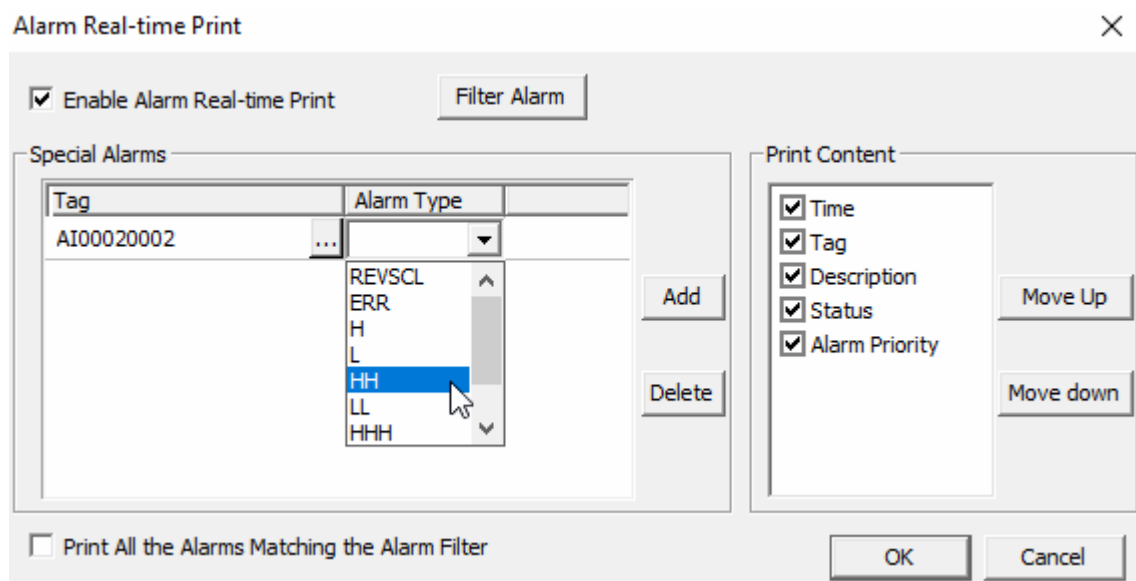

Figure 4-86 Add a special alarm
- Add a special alarm: When click the button "Add" and select  beside the tag name as shown in *Figure 4-86*, the tag selector will pop up; After a tag has been selected, all alarm types of the tag will be listed in the "Alarm Type" according to tag types (analog, digital, etc.) .Select the required alarm type.